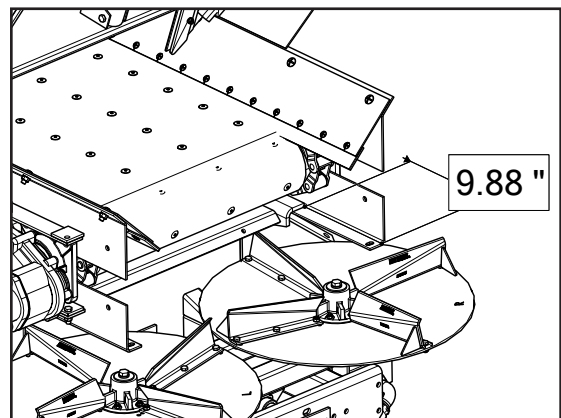

Figure 2
2. Figure 2 - Measure from the Spinner Frame mounting flange to the end of the Sill on each side. Measurement should be $9\text{-}7/8''$ (25cm). Measurements must be equal, or no greater than $1/8''$ (0.3cm) off overall.